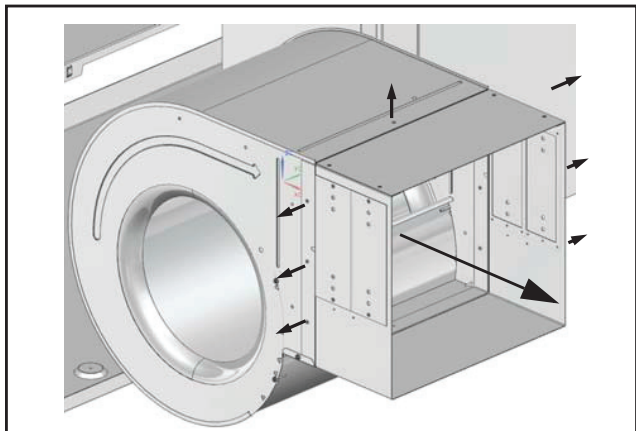

Fig. 50 - Remove Blower Collar
10. Remove and discard blower collar by removing (8) screws. See Fig. 50.